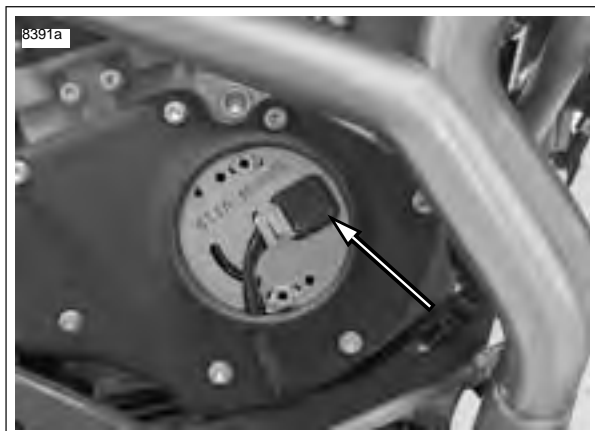
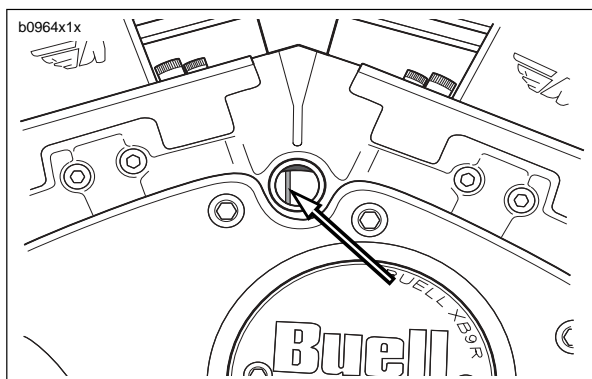

Figure 1-52. Cam Position Sensor (Timing Plate)
Figure 1-53. Advanced Timing
2. See Figure 1-53. If timing is advanced (mark appears on left side of window) rotate timing plate counterclockwise. See Figure 1-52.